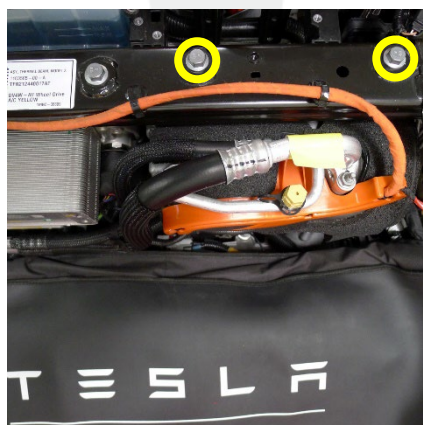

Figure 39
33. With the help of an assistant to support the weight of the A/C compressor, install the bolts (x2) that attach the A/C compressor bracket to the shock tower brace (Figure 39) (torque 31 Nm).